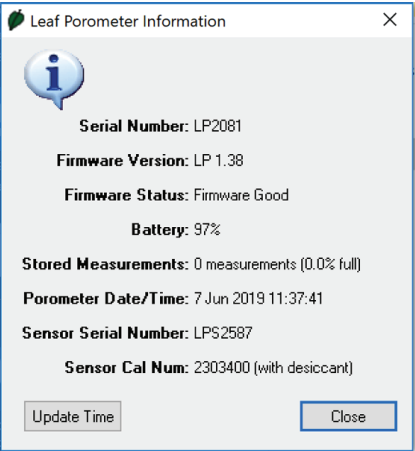

Figure 39 Leaf Porometer Information screen
- View Porometer Information: Shows the serial number, firmware version, number of stored readings in the SC-1, firmware status, battery status, current date and time, and sensor calibration number (Figure 39).